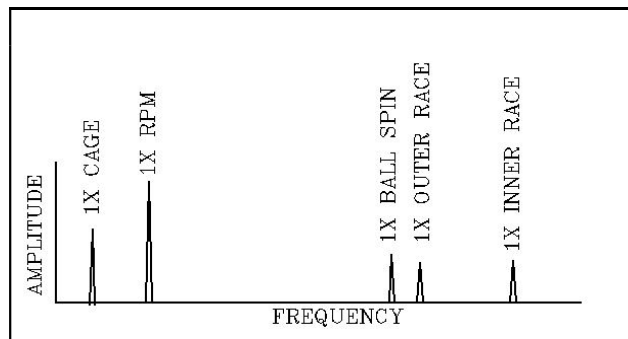

Fig. 10.5
- Identify the calculated fundamental anti-frequency bearing frequencies, as shown in Figure 10.5. As bearing condition deteriorates the bearing frequencies may be modulated by rotor speed. Also, multiples of each fundamental frequency may appear and/or the fundamental frequency may disappear entirely.